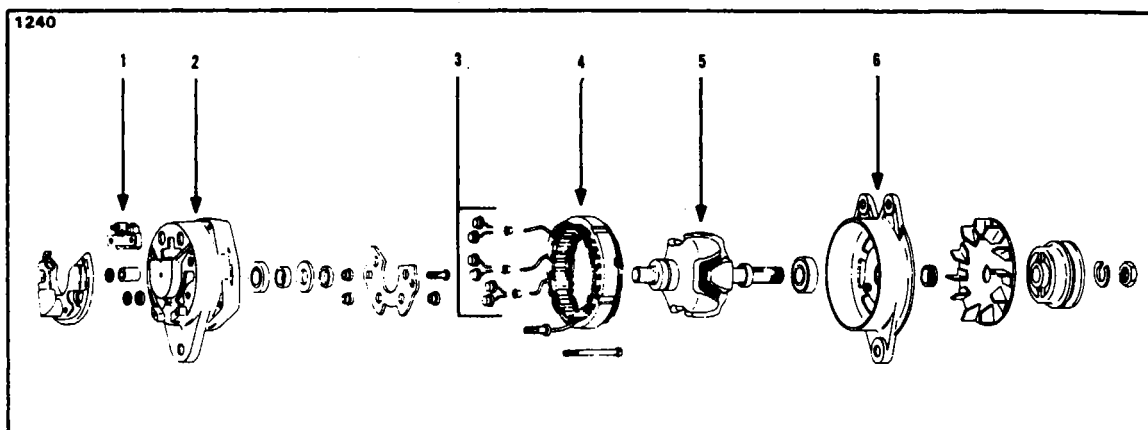

Figure 11-33. Exploded View of Alternator
11-72. DESCRIPTION OF ALTERNATOR. (Refer to Figure 11-33.) The principal components of the alternator are the brush holder assembly (1), the slip ring end head (2), the rectifiers (3), the stator (4), the rotor (5) and the drive end head (6).